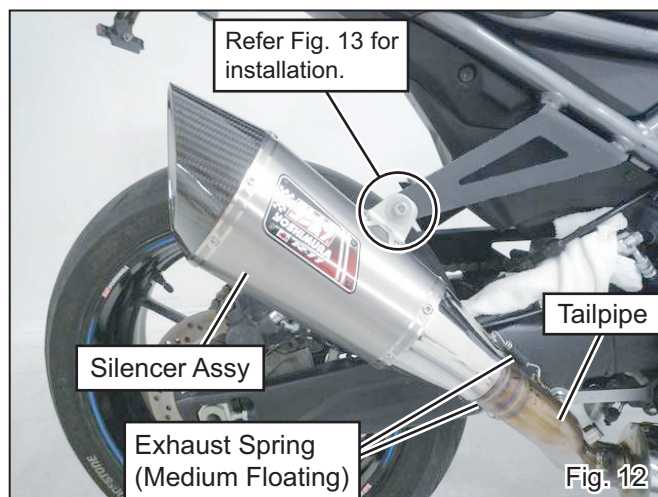

Fig. 12
11) Install Silencer Assy to Tailpipe and fix them with 2 of Exhaust Springs (Medium Floating) (See Fig. 12).
12) Attach Silencer Assy to Silencer Bracket with Cap Bolt M8x35, 3 of Washer M8x26 and Flange Nut M8 (See Fig. 12 & 13). Tighten bolt only by hand at this stage.